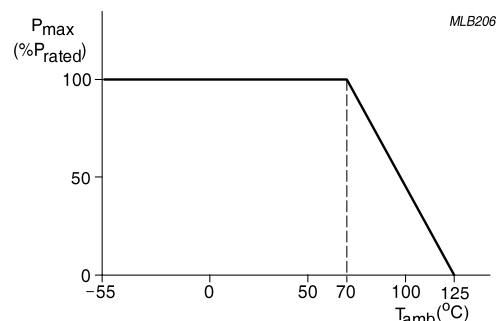
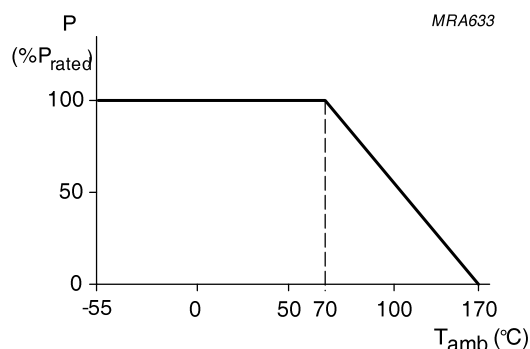

Fig. 6-1 Maximum dissipation ( $P_{\max}$ ) in percentage of rated power as a function of the operating ambient temperature ( $T_{\text{amb}}$ )
Fig. 6-2 Maximum dissipation ( $P_{\max}$ ) in percentage of rated power as a function of the operating ambient temperature ( $T_{\text{amb}}$ )
**FUNCTIONAL DESCRIPTION****OPERATING TEMPERATURE RANGE**PE0201 to PE0402 Range:  $-55^\circ\text{C}$  to  $+125^\circ\text{C}$  (Fig. 6-1)PE0603 to PE2512 Range:  $-55^\circ\text{C}$  to  $+170^\circ\text{C}$  (Fig. 6-2)**POWER RATING**Standard rated power at  $70^\circ\text{C}$ :